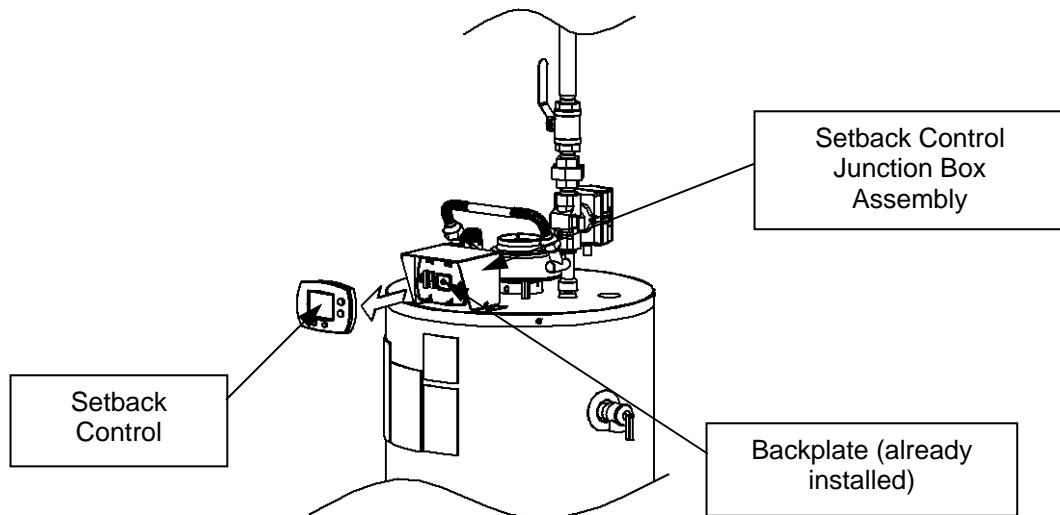

Figure 8
Step 2: Remove the Setback Control from the backplate attached to the Setback Control Junction Box Assembly. Some force may be required. This is shown in Figure 8.